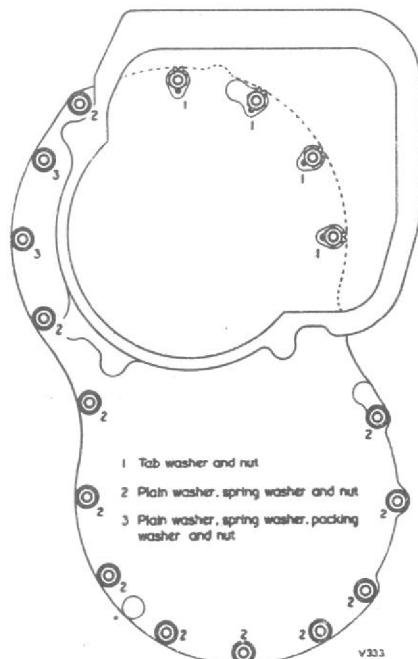

Fig. 12. Positioning of nuts and washers securing the valve box mounting plate
- (6) Secure the mounting plate with four new tab-washers (Part No. AGS518E), thirteen plain and spring washers, two slave packing washers and seventeen nuts as shown in fig. 12; do not lock the nuts.
- (7) Remove the sump from the fixture.